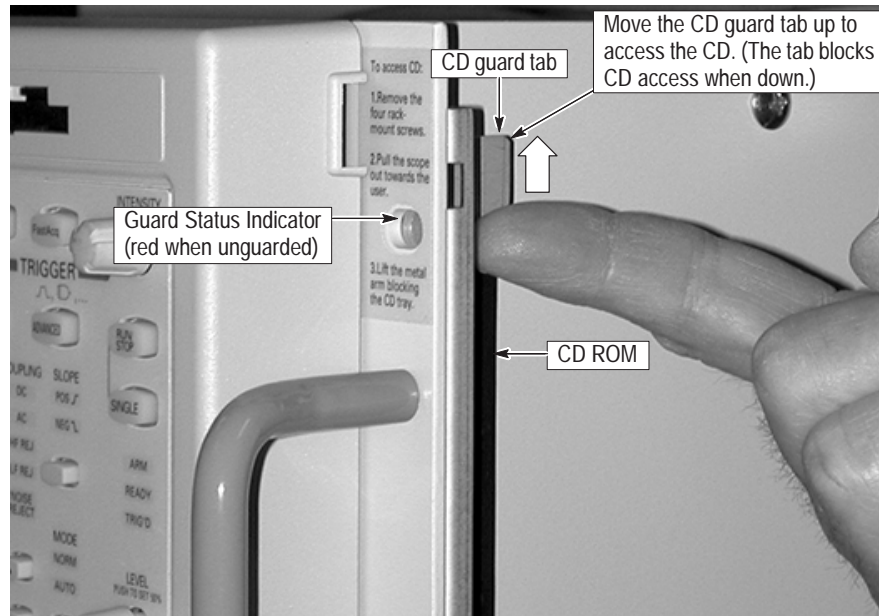

Figure 12: Guard detail
The rackmount kit includes a bracket with a CD guard tab, that mounts on the front-right side of the instrument. See Figure 12 on page 24. The guard tab is on the inside edge of the bracket, and prevents the drive from opening when the guard is in the down (guard) position. A guard status indicator on the front of the bracket displays red when the guard is in the up (unguarded) position.
4. When you are done using the CD drive, move the guard down and verify that the red indicator is not showing. See Figure 12.